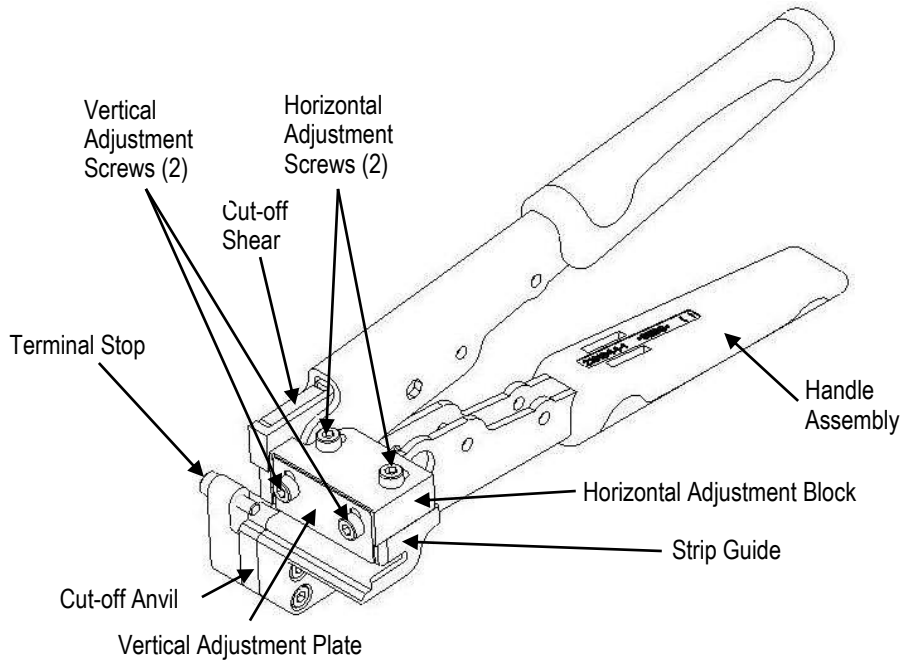

Figure 1
- ◆ The tool is comprised of a Handle Assembly, Cut-off Anvil, Cut-off Shear, Strip Guide, Horizontal Adjustment Block, Vertical Adjustment Plate, and Terminal Stop (reference Figure 1).